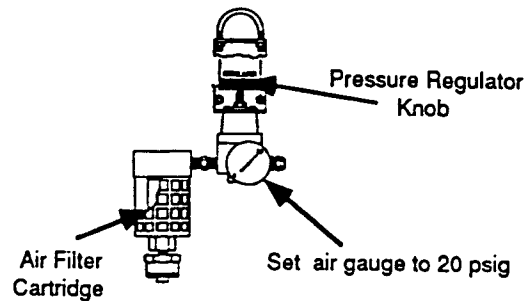
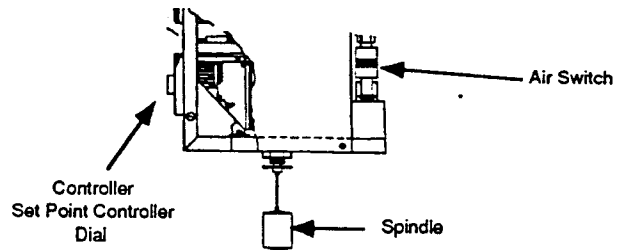

Figure 13: Air Set
Figure 14: Viscosel Air Switch
- 2) Adjust and maintain the instrument air supply to 20 psig by adjusting the air regulator supplied with the air set (re. figure 13). Open the slide valve which is located at the back of the Viscosel base as shown in figure 14. Some units are equipped with electrical drive and control necessitating the energizing of 115 volt AC power circuits.
NOTE: TO INSURE CONTINUED GOOD OPERATION, AND A CLEAN AIR SUPPLY REPLACE AIR FILTER CARTRIDGE (re. figure 13) OF AIR SET SUPPLY ON A REGULAR BASIS (90 DAY CYCLE OR LESS). IT IS ALSO RECOMMENDED THAT THE SOLVENT LINE SCREEN FILTER BE PERIODICALLY CLEANED AND REPLACED.